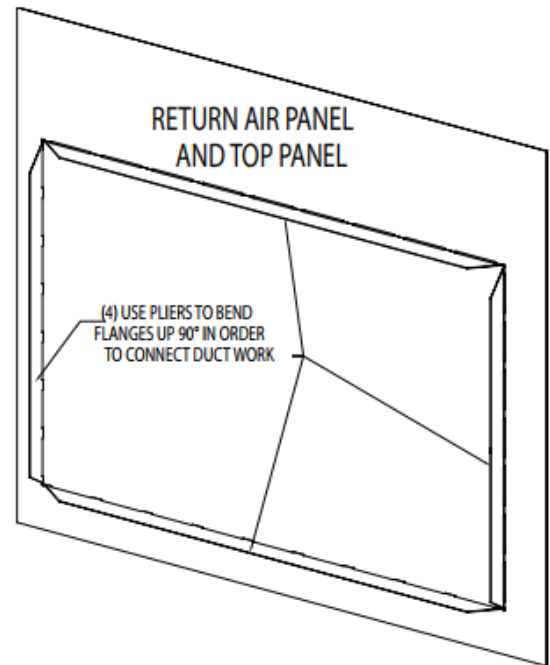

Figure 3
2. Use a sheet metal hand to brake tool to bend the supply and return air duct flanges as shown in figures 3 & 4.